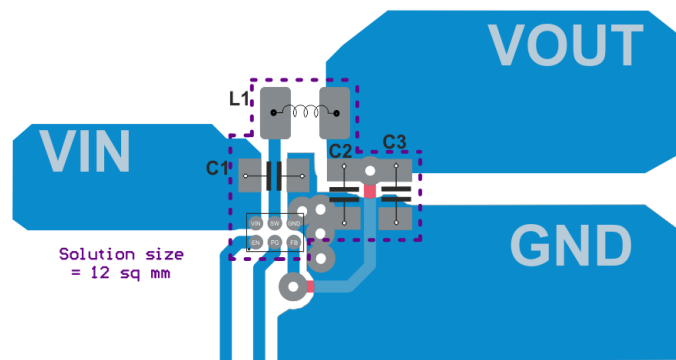

图 15. PCB Layout of Fixed Output Voltage Application
The printed-circuit-board (PCB) layout is an important step to maintain the high performance of the device. See and 图 15 for the recommended PCB layout.
- Refer to and 图 15 for an example of component placement, routing and thermal design.